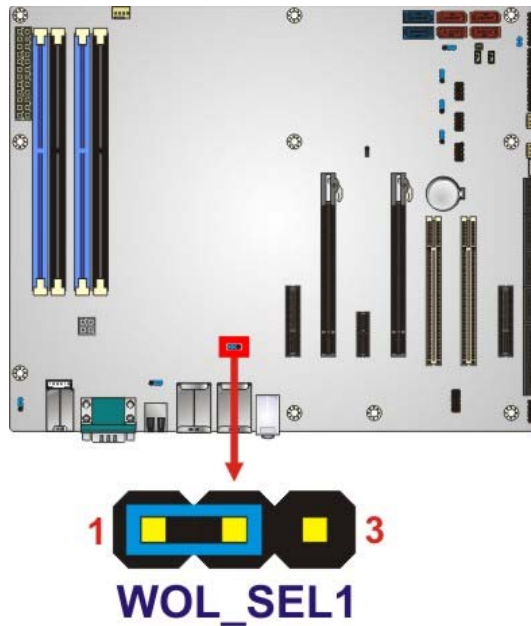

Figure 4-11: Wake-on LAN Connector Pinout Location
- CN Location:** See **Figure 4-11**